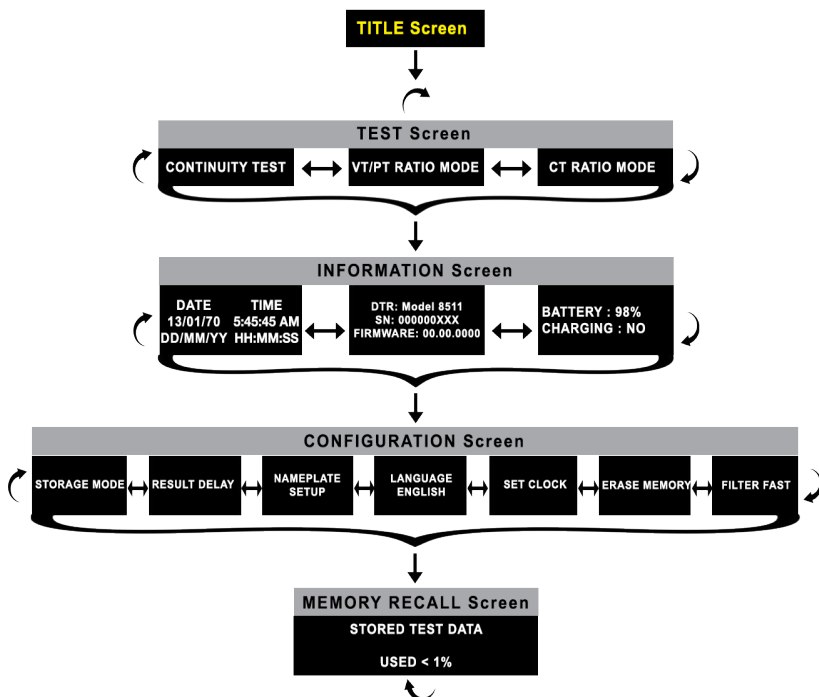

Figure 9
- **Vertical Navigation:** Pressing the  or , button will navigate up or down a menu level. For example it allows to navigate between the Test, Information, Configuration and Memory Recall screens (see Figure 9). These buttons are also used to select the next and previous items within a selected group and to display or change values for certain fields like date and time.